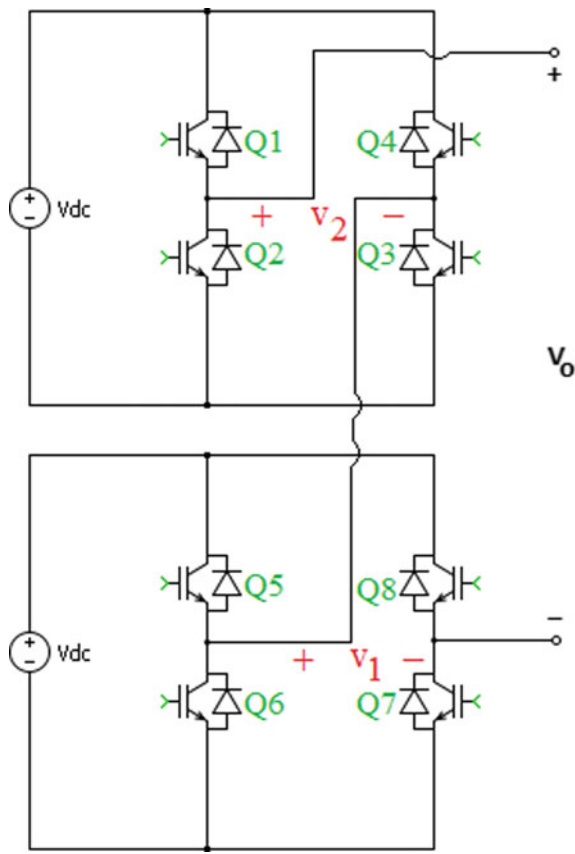

Fig. 4.132 Circuit for Exercise 4
4. A cascaded multilevel inverter is shown in Fig. 4.132. It is composed of a series connection of two single-phase H bridge inverters. Each of the H bridge inverters can produce an output voltage of  $-V_{dc}$ , 0 and  $+V_{dc}$ . So, with a series connection of two H bridge inverters, we can produce  $-2V_{dc}$ ,  $-V_{dc}$ , 0,  $+V_{dc}$  and  $+2V_{dc}$ . Increasing the number of series stages helps to decrease the output of THD.